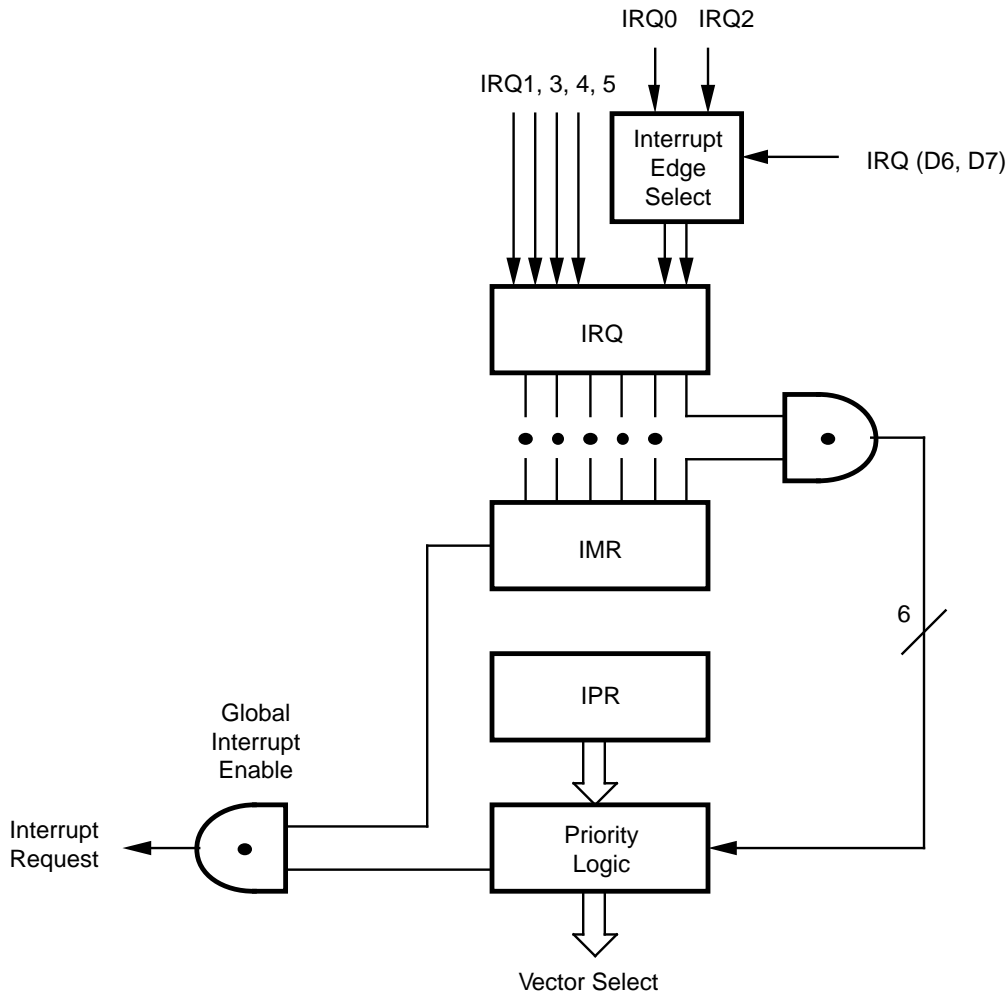

Figure 28. Interrupt Block Diagram
**Interrupts.** The MCU has six different interrupts from six different sources. The interrupts are maskable and prioritized (Figure 28). The six sources are divided as follows: four sources are claimed by Port 3 lines P33-P30) and two